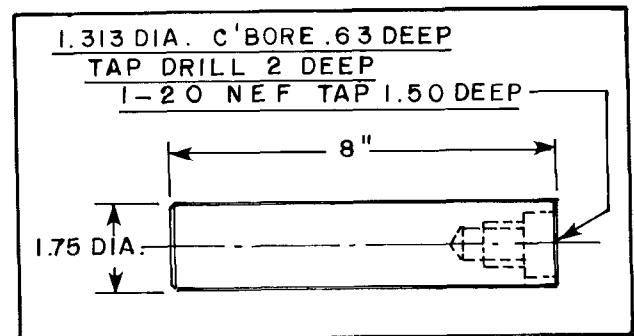
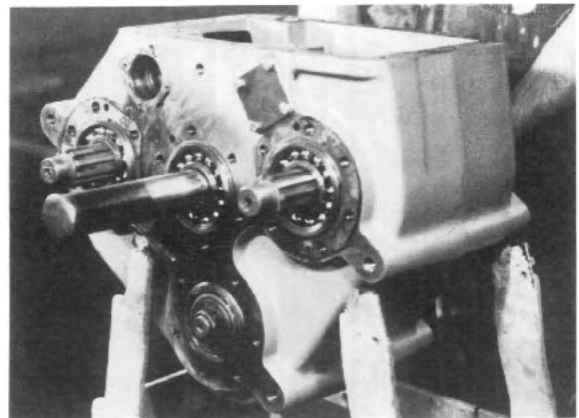

Fig. 20
Fig. 21
1. Remove the capscrews from the front (Item 29) and rear (Item 45) caps. Remove the front (speedo) cap. Remove nut, speedo drive gear and spacer (Items 31, 32, and 33). Screw alignment tool (See Fig. 20 and 21) on to the end of the shaft. Place alignment studs (Fig. 28) in two holes of the rear cap (Item 45).
- Insert the alignment tool (866 271) which is shown in the accompanying sketch, Fig. 20, through the bearing with the tapped end toward the center of the case (See Fig. 21).